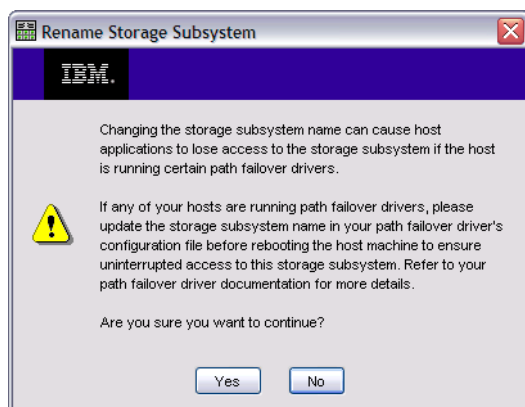

Figure 12-3 Rename Storage Subsystem Information
3. Read the advice in the window (Figure 12-3), and click **Yes** to confirm. Renaming the storage subsystem will also influence, for example, some customized SMcli scripts, where the subsystem is referenced by its name.